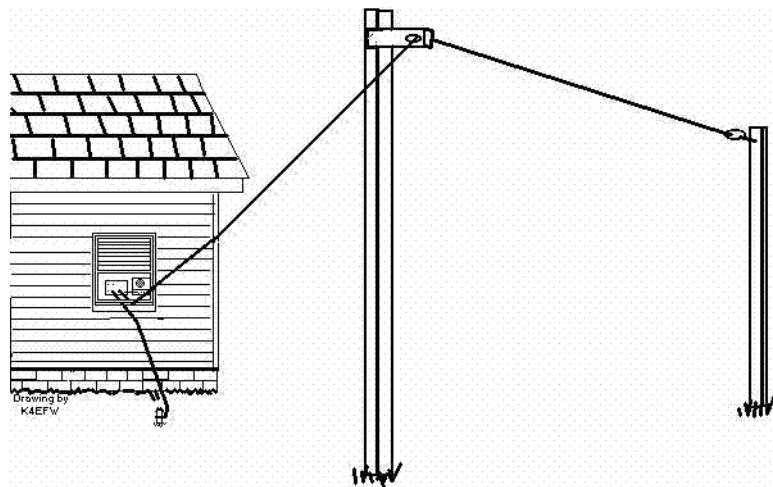

Figure 11.2: End-Fed Random length or Long Wire Antenna
*Figure 11.2: End-Fed Random length or Long Wire Antenna* on page 43 shows another end-fed antenna made from a random length of wire connected to the back of the tuner. The wire then exits the shack and goes to a high support where it then runs horizontally to another high support. The tuner's groundside must be connected to a good RF ground, since a poor ground causes high losses. This antenna is commonly called a “long wire.” Since the end of the antenna comes in the shack, you will be exposed to high levels of RF. In addition, this type of installation may cause RF to be picked up in the microphone, noted by distortion. The